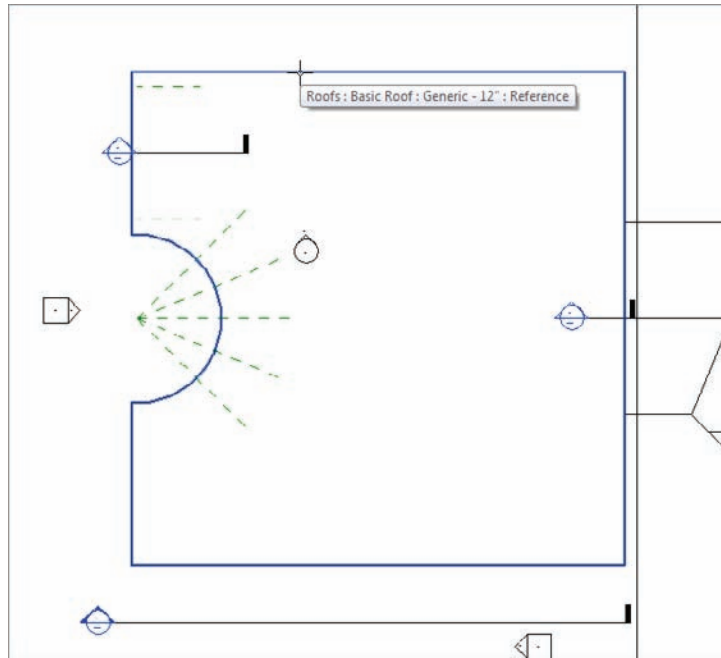

FIGURE 12.83 Picking the roof. Your work plane is now set to slope with the roof. Anything you draw will be on this sloping plane.
5. Pick the roof, as shown in Figure 12.83.